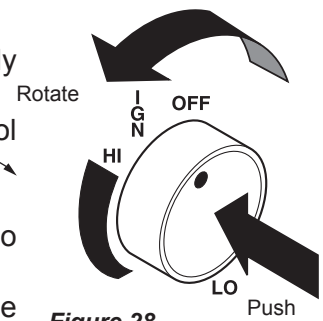

Figure 28 -
6. From OFF position, push in gas control knob slightly and turn counterclockwise to the IGN position. Figure 28. Push in and hold control knob for 5 seconds.